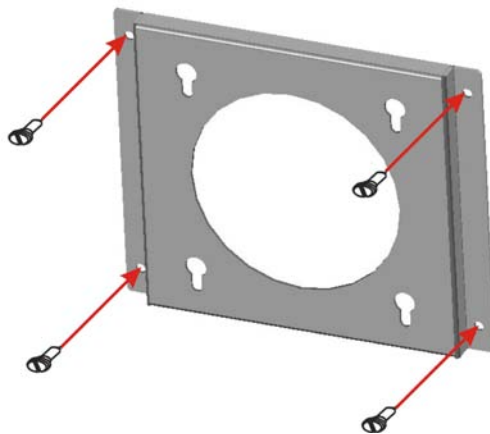

Figure 4-19: Wall-mounting Bracket
- Step 10:** Secure the mounting-bracket to the wall by inserting the retention screws into the four pilot holes and tightening them (**Figure 4-19**).